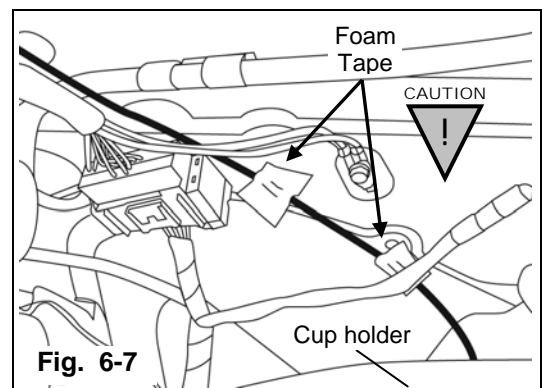

Fig. 6-7
7. Continue routing toward D-pillar securing with two (2) pieces of foam tape. (Fig. 6-7).